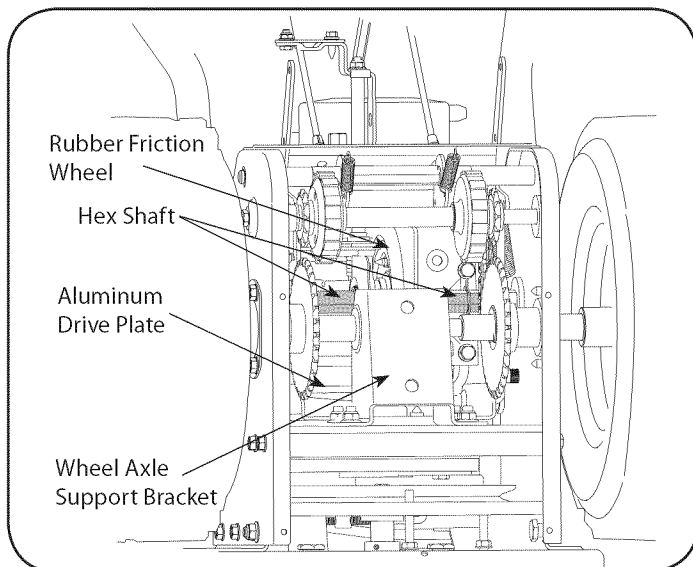

Figure 21
At least once a season or after every 25 hours of operation, remove rear cover. Lubricate all chains, sprockets, gears, bearings, shafts, and the shifting mechanism. Use engine oil or a spray lubricant. Refer to Figure 21.
3. Apply a light coating of engine oil (or 3-in-1 oil) to the hex shaft. See Figure 21.